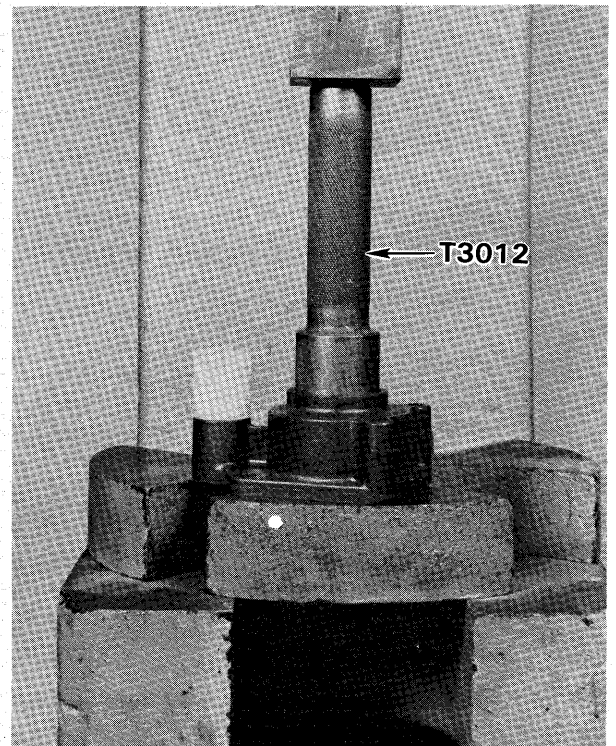

Figure 5—Installing Driveshaft Seal
- A. Place water pump body on a wood block which supports inside top surface of pump body to prevent it from collapsing when installing driveshaft seal. Place water pump centering disc in seal bore in water pump body. Place driveshaft seal in seal bore on top of centering disc (with major sealing lip up) press seal in bore (using Special Tool T3012) until seal bottoms out. See figure 5.